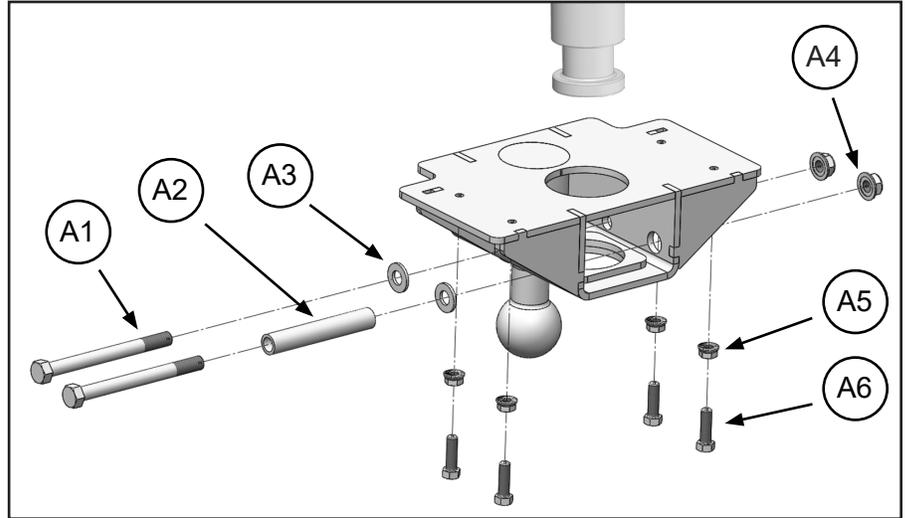

FIG.2
2. Slide the King Pin Adapter over the king pin and install one Adapter Plate Bolt {A1} and Flat Washer {A3} horizontally through the smaller cross hole nearest the hitch ball (FIG.2). Install 1/2” Flange Nut {A4} and hand tighten only.